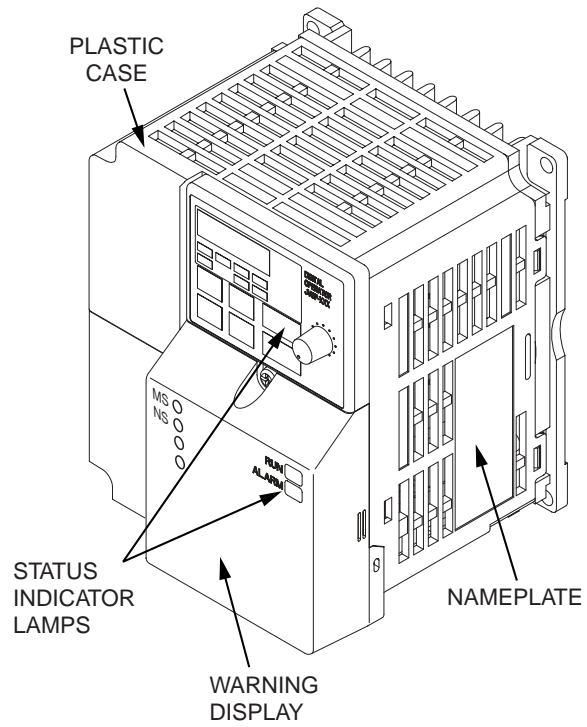

**Figure A6-2. Typical Wiring of Braking Resistor Unit (for 10% Duty Cycle) to Drive**
2. Open the Braking Resistor Unit terminal box to access its terminal block. Connect the Braking Resistor Unit to the drive and external control circuit according to the following table and Figure A6-2.